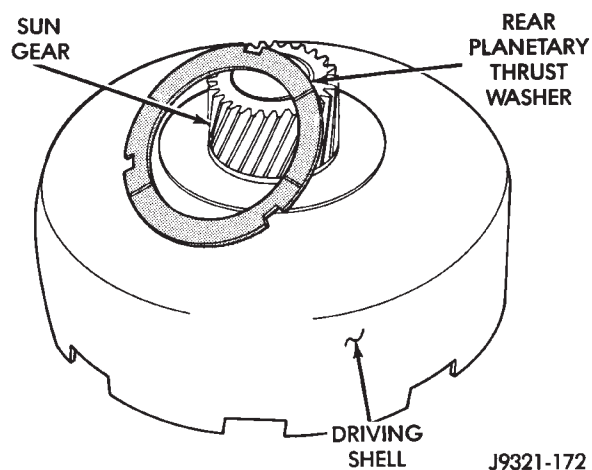

Fig. 176 Rear Planetary Thrust Washer Removal
(6) Remove tabbed thrust washer from rear planetary gear (Fig. 176). Note washer position on gear for assembly reference.